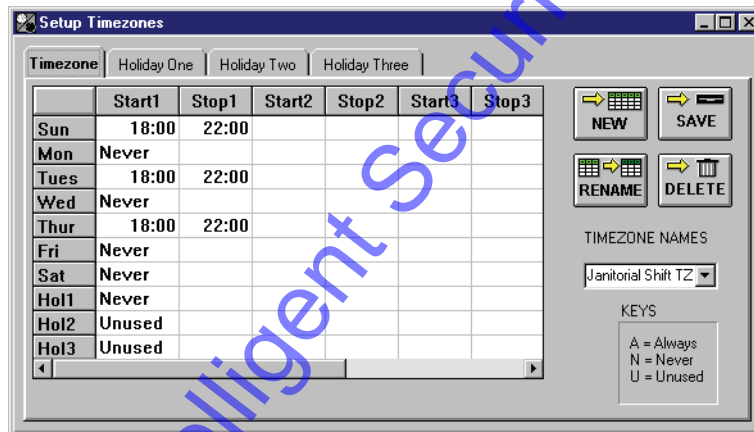

Figure 3-4: Janitorial Shift Time Zone Example
7. Click in the “Timezone Names” field and type **Janitorial Shift TZ**. The Setup Timezones window should appear identical to Figure 3-4. Any discrepancies can be corrected by clicking on the cell or field and making the correction.